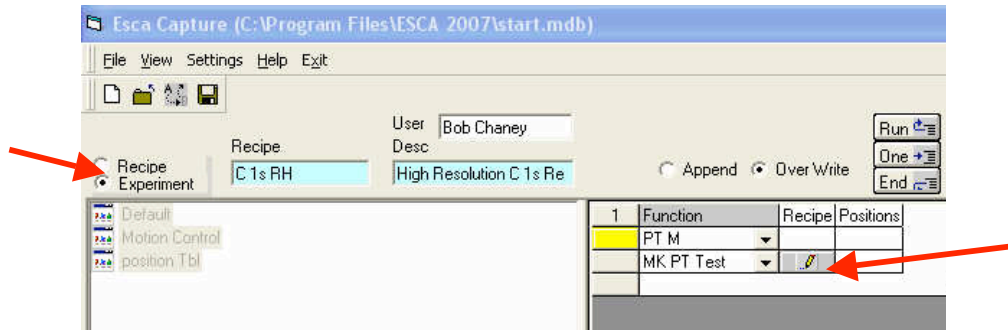
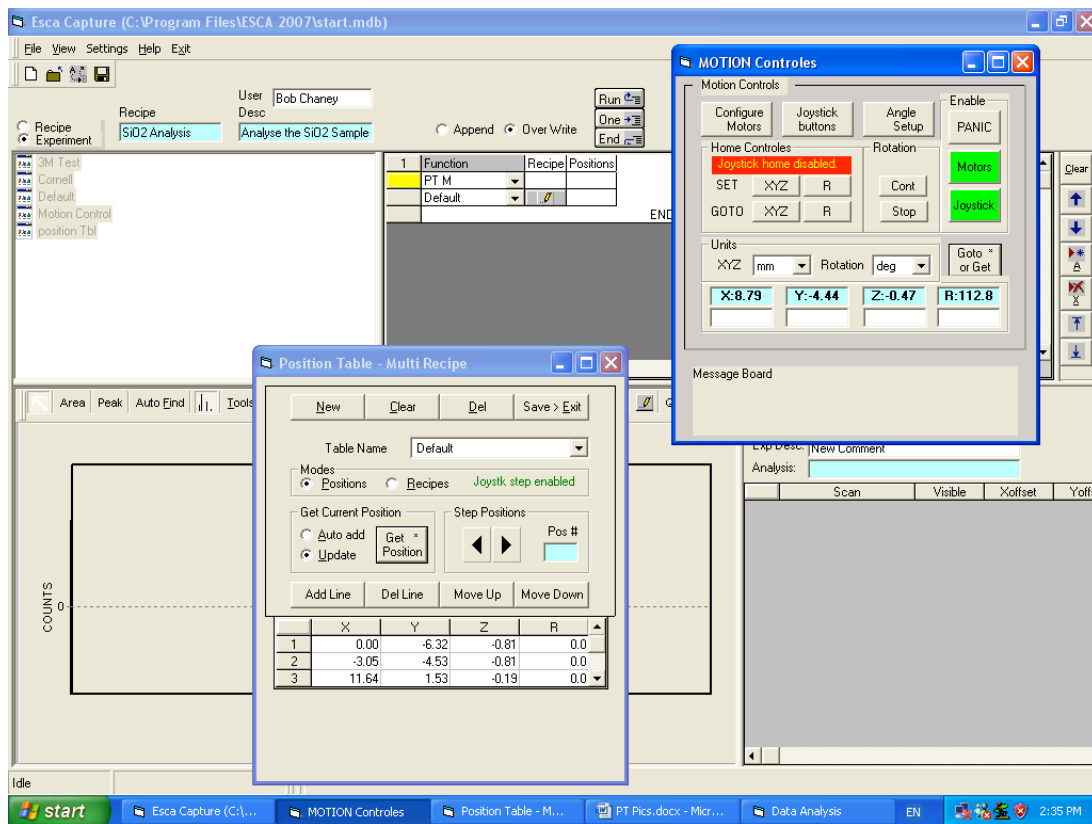

Figure 5. Mode selection and pencil location
Figure 6 Activation of Position Table-Multi Recipe and Motion Control dialogs
- 2.1 Following completion of the MRS table this current section can be carried out in either *Recipe* or *Experiment* mode (Fig. 5). Selection of the *Experiment* mode will change the appearance of the recipe list.
- 2.2 Delete all but one of the Function lines and select *PTM* in the Function pull-down menu (Fig. 5) and then use the second line of the function pull-down menu to select the required PT Category name.
- 2.3 Click on the pencil operator (Fig. 5) to activate the *Position Table-Multi Recipe* and *Motion Control* dialogs (Fig. 6).